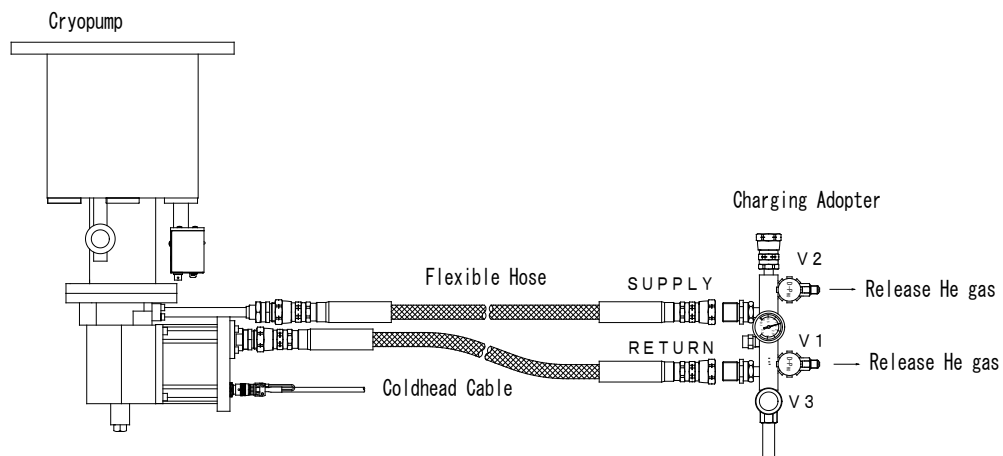

Figure 8-3 Connecting Charging Adaptor
4. Connect SUPPLY and RETURN flexible hoses to the charging adaptor. (See Figure 8-3)